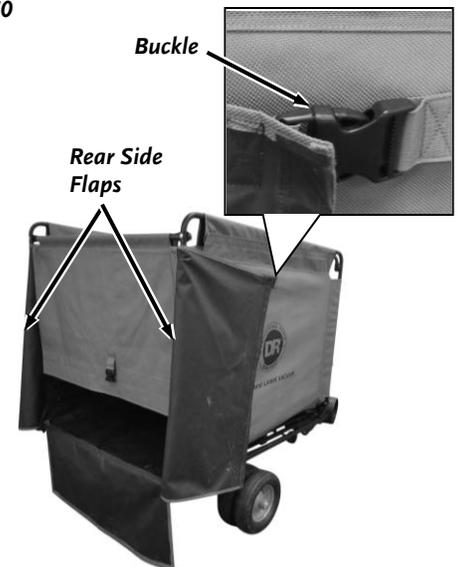

Figure 71
4. Attach the top Buckles of the side Door Flaps to the Buckles at both sides of the Enclosure (**Figure 71**).